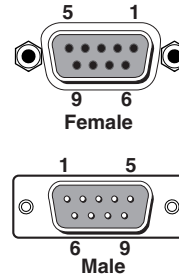

Figure 2-9 — Remote port pin assignments
- ⑦ **Remote port** — Connect a host device, such as a computer or touch panel control, to the Integration Seamless Matrix switcher via this 9-pin D connector for serial RS-232 control (figure 2-9).